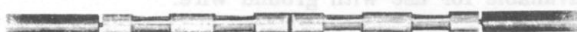

Fig. 7—Ground Wire Splice Made with "B" Sleeve
- Do not tape ground wire splices (Fig. 7).